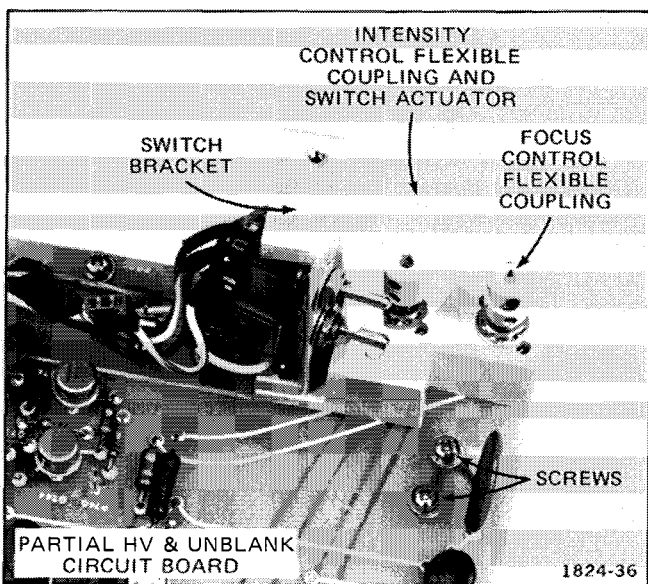
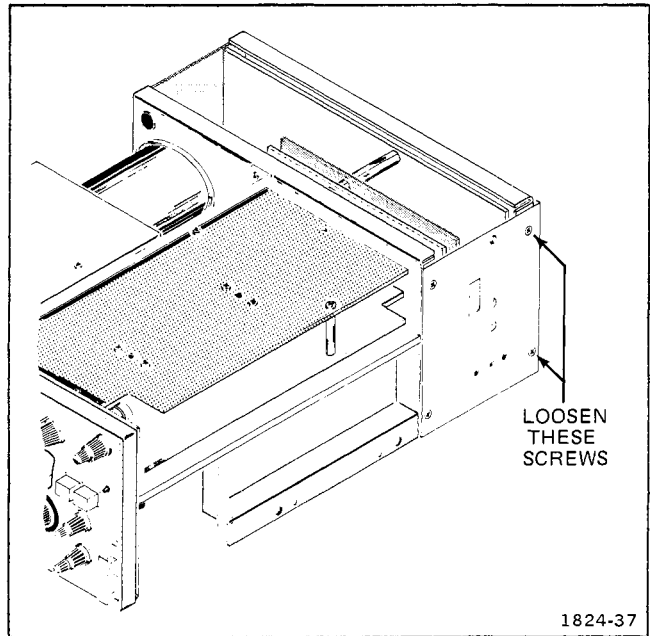

Fig. 4-8. Location of screws near Focus and Intensity controls.
Fig. 4-9. Location of screws on power supply section.
b. Remove the 2 screws near Intensity and Focus controls (see Fig. 4-8). Loosen the 2 screws (do not remove) shown in Fig. 4-9.